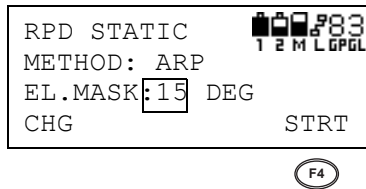

Figure 3-38. Select Elevation-mask Angle
7. Scroll down to the elevation-mask angle and set the mask in increments of 1 degree (Figure 3-38).